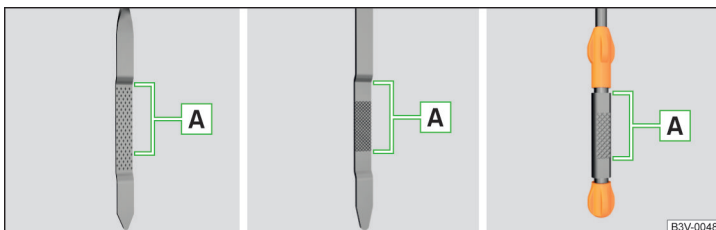

Fig. 310 Dipstick variants
The oil level must be in range **A** » Fig. 310. If the oil level is below the range **A**, refill the oil.
- The oil level must never fall outside range **A** » Fig. 310 - otherwise there is a risk of damaging the engine and the exhaust system.